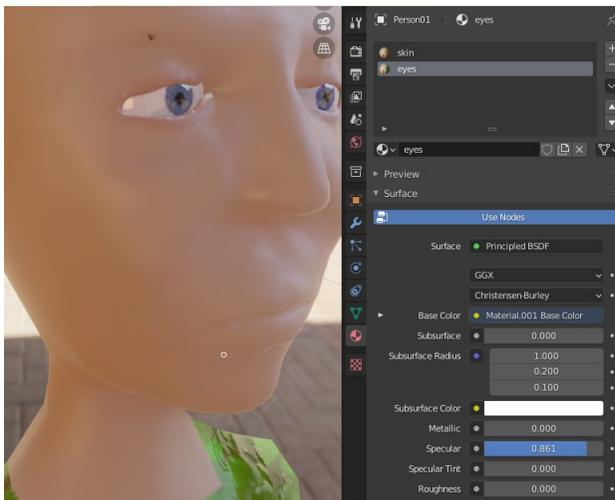

Figure 5-6 Copy the skin material settings to the eyes material
3. You can copy and paste one material to another using the tiny drop-down menu button to the right of the material slots list, just visible in Figure 5-6. However there is a quicker way, using the button, just to the right of the current material name, with an icon of two overlapping squares. First rename the material from Material.001 (or whatever default name was created) to skin.